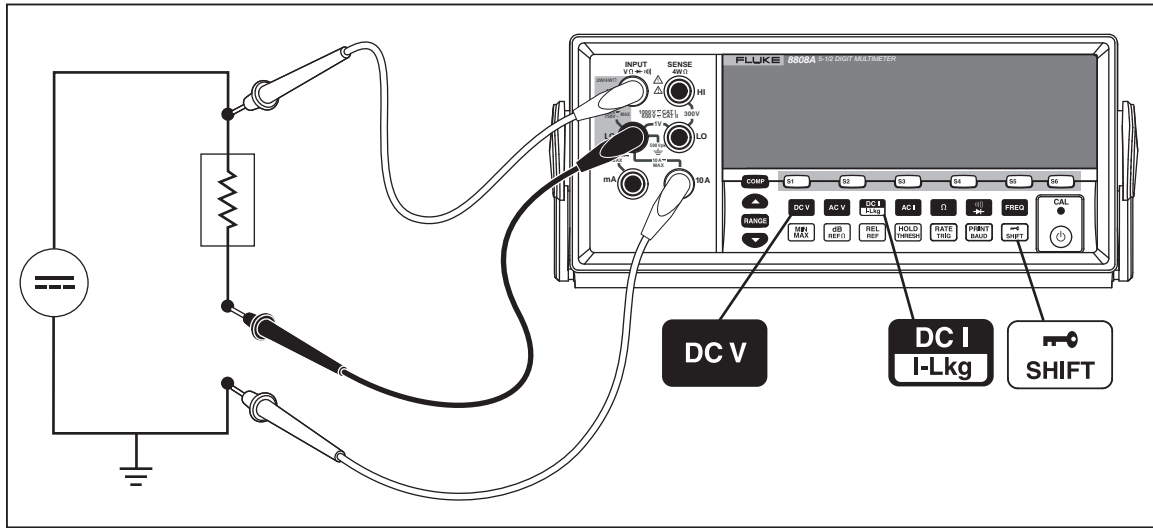

Figure A-2. DC Voltage and DC Current Measurement on Input Signal
Most applications of the dual display listed in Table A-2 can be performed using a single set of test leads connected to the **INPUT** $V\Omega\rightarrow\text{||||}$ **HI** and **LO** terminals. However, to measure the voltage and current of an input signal requires three leads. Be sure that the voltage and current measurements share the same common as shown in Figure A-2. Then simply follow the precautions you would follow if you were making normal current measurements without a current clamp.
4. Connect the leads to the test circuit as shown in Figure A-2 and read the measurements on the display. Although current will be displayed as negative, it is in fact positive when interpreted according to current flow convention.